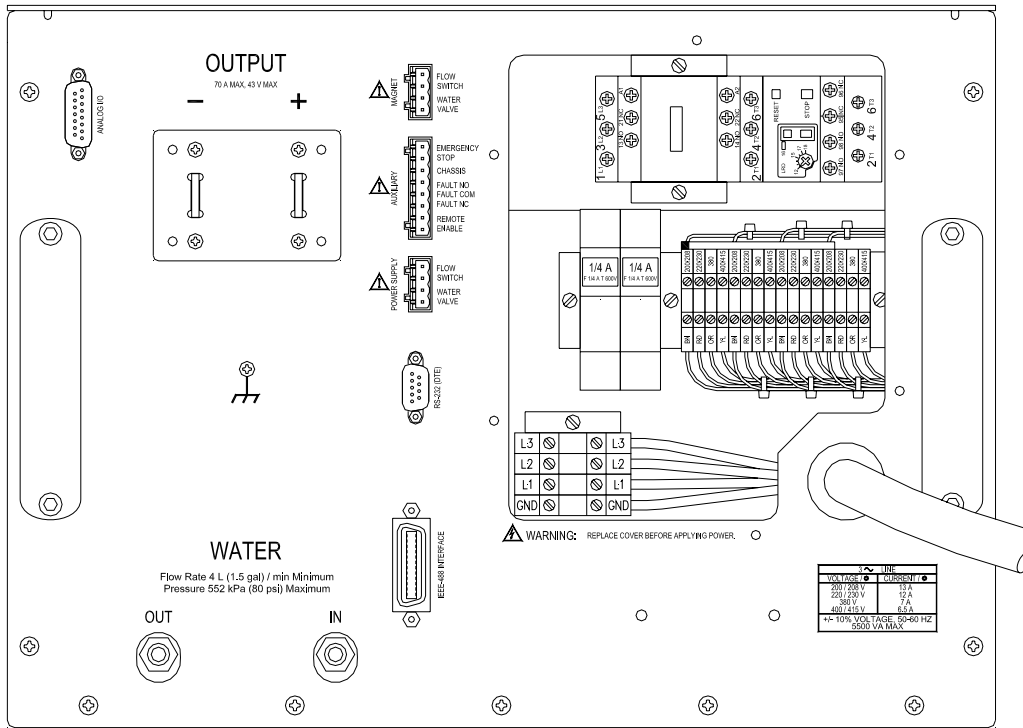
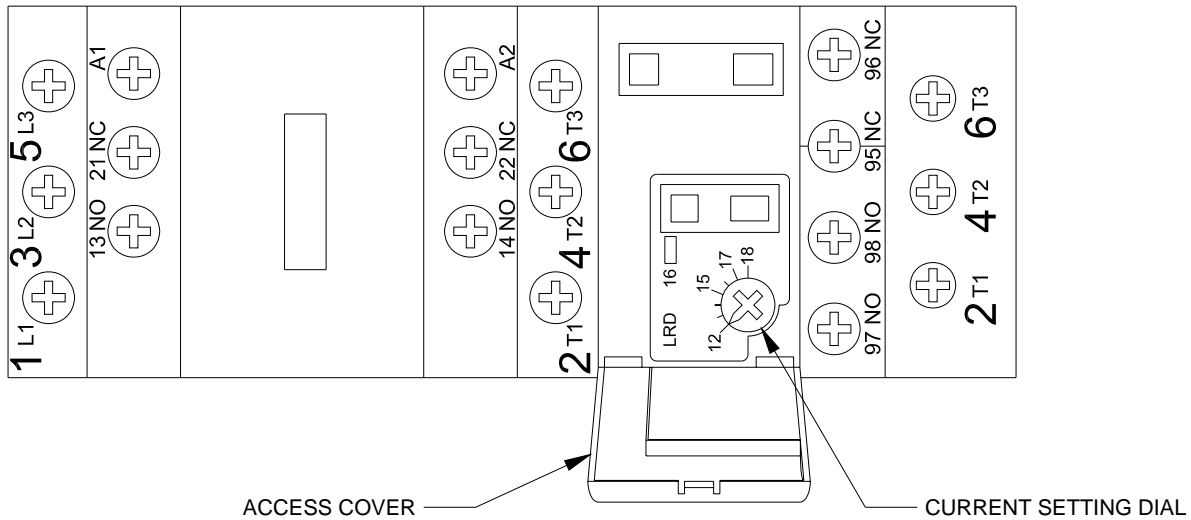
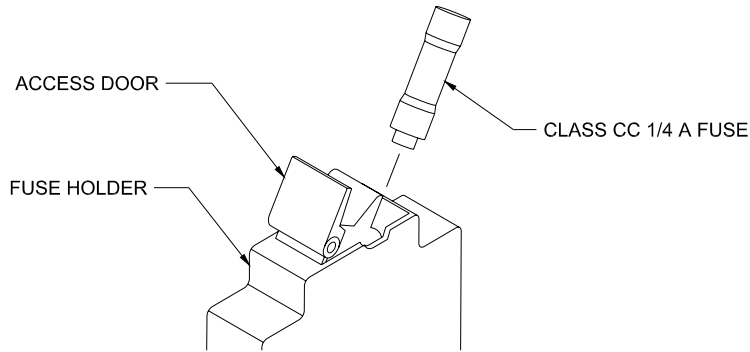

Figure 7-1. Model 642 Rear Panel (shown with wiring cover removed)
Figure 7-3. Circuit Breaker
Figure 7-4. Fuse Holder Detail
The Model 642 may be configured for four basic AC power configurations: 208 VAC, 230 VAC, 380 VAC and 415 VAC. Proper voltage selection must be made before connection to the power mains. Each configuration requires the appropriate wiring within the power wiring access panel on the rear of the instrument. Nominal line voltages and appropriate selections are shown in Table 7-1. See Section 3.3.1 for further details. See Figure 7-1 for general locations.
5. Refer to Figure 7-1 to locate the circuit breaker detailed in Figure 7-3.
6. Lift the circuit breaker setting access door and visually confirm the setting as shown in Figure 7-3.
5. Locate the two fuse holder assemblies as shown in Figure 7-1 and detailed in Figure 7-4